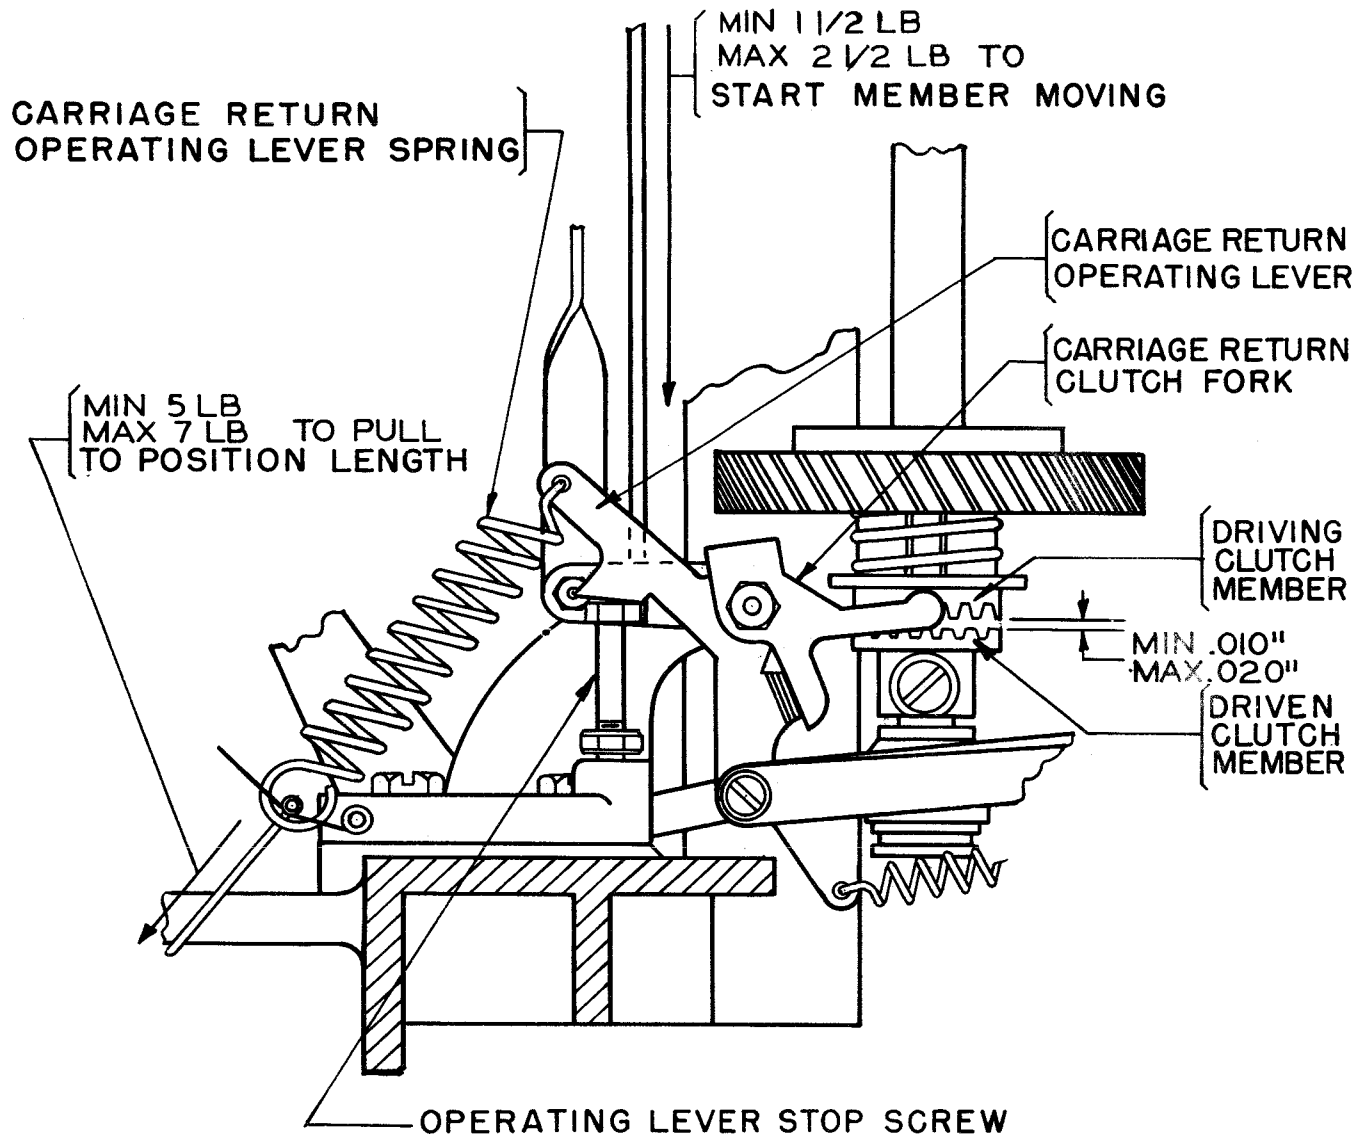

Figure 47
2.103 Carriage-return Clutch: The teeth of the carriage-return clutch members should clear each other by minimum 0.010 inch, maximum 0.020 inch when the carriage-return lockbar is latched and the shoulder of lockbar is held against the edge of the latch. See Figure 47.
minimum 5 pounds, maximum 7 pounds when the shoulder of the carriage-return latchbar is against its latch. See Figure 47.
carriage-return lock-bar latch is held away from the lockbar. See Figure 47.